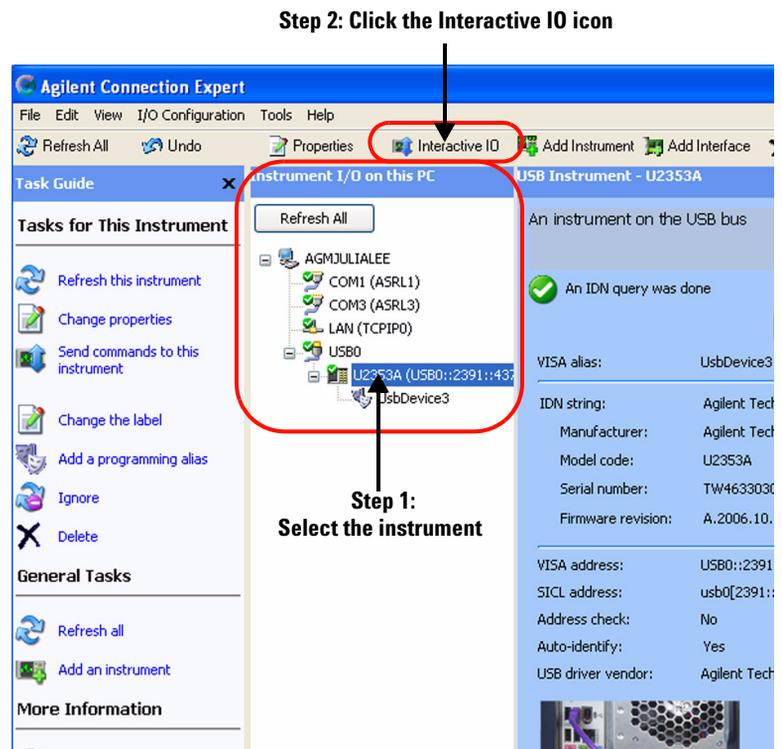

Figure 2-9 Launch the Interactive IO in Agilent Connection Expert
- 6 The calibration process will take a few minutes to be completed. Once done, the status and results of the process will be displayed as shown in Figure 2-9.